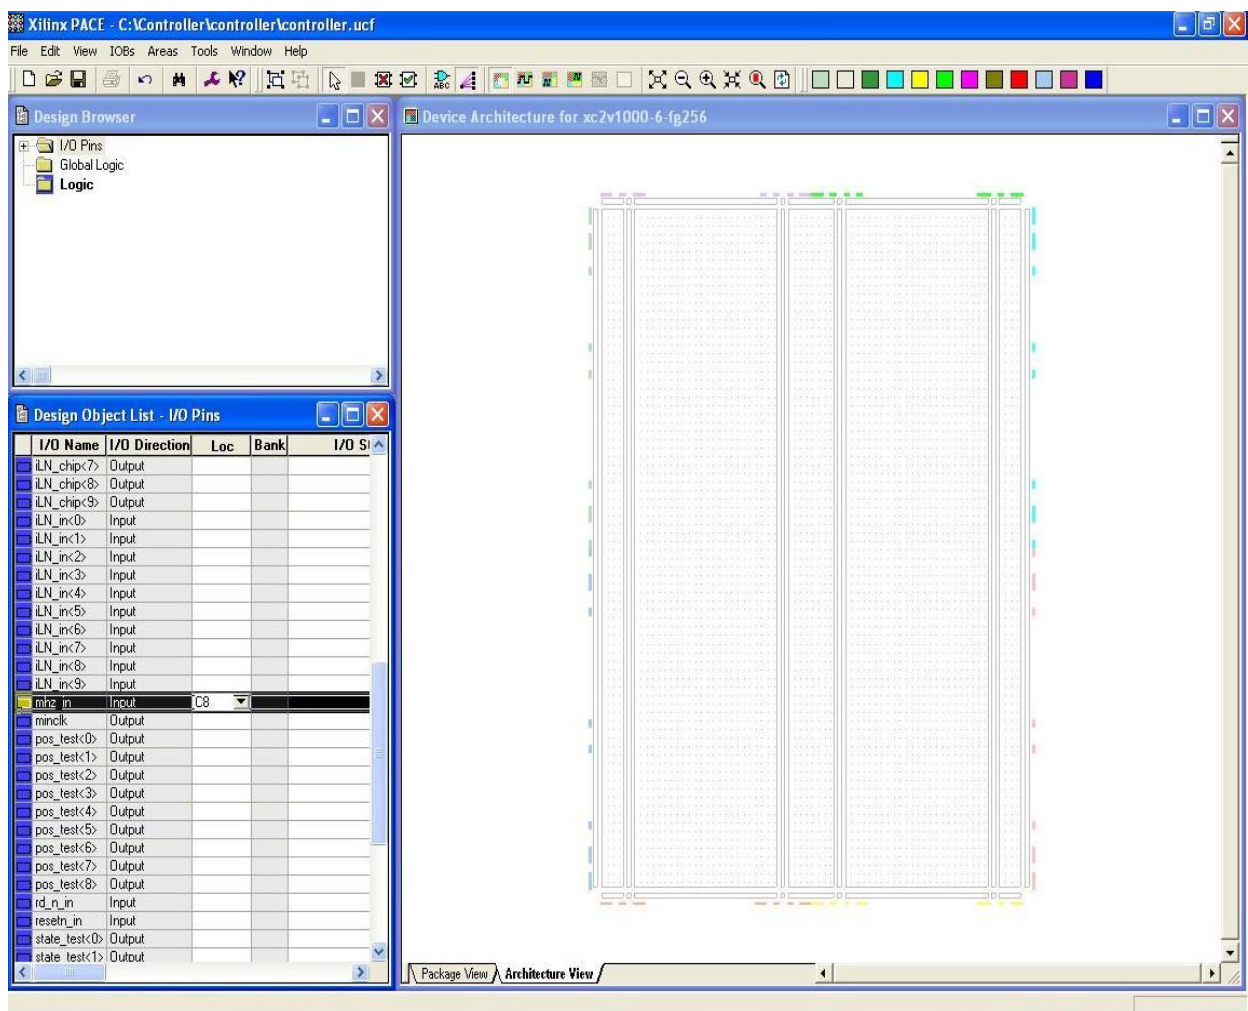

Fig 3.18: Assigning Package pins
2. Double click on **Assign Package Pins** process. It emerges to a **Pinout and Area Constraints Editor (PACE)** window as shown in Fig 3.18. Select the **Design Object List- I/O Pins** and assign the **Clock signal** with the running pin .This can be done with Virtex-II user guide which gives the location of Clock enable switches.